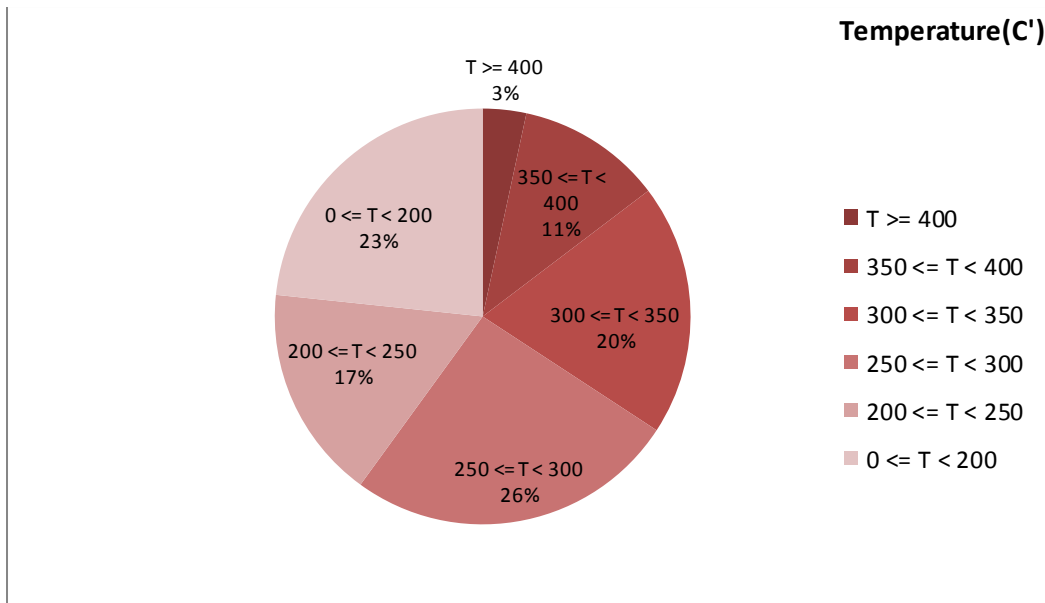

Figure 2-Temperature distribution over the working hours
- Figure 2 displays flow temperature distribution for DPF's upstream. It can be obviously observed that 3 % of total working time temperature is above 400°C. Considering line 2 usual temperature distribution (temperature above 400°C < 1 %), it is obvious this rise in temperature was related to pressure increase due to DPF's ash loading.